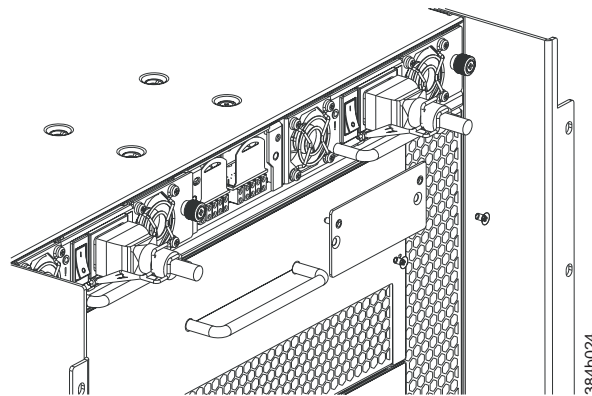

Figure 39. WWN bezel and card removal and installation
3. Remove the two screws from the WWN bezel . Pull the bezel away from the chassis and set it aside (see Figure 39). The WWN cards and their status LEDs are visible.
5. Install the WWN bezel. Orient the bezel on the chassis (Figure 39 on page 79). Insert and tighten the two screws.